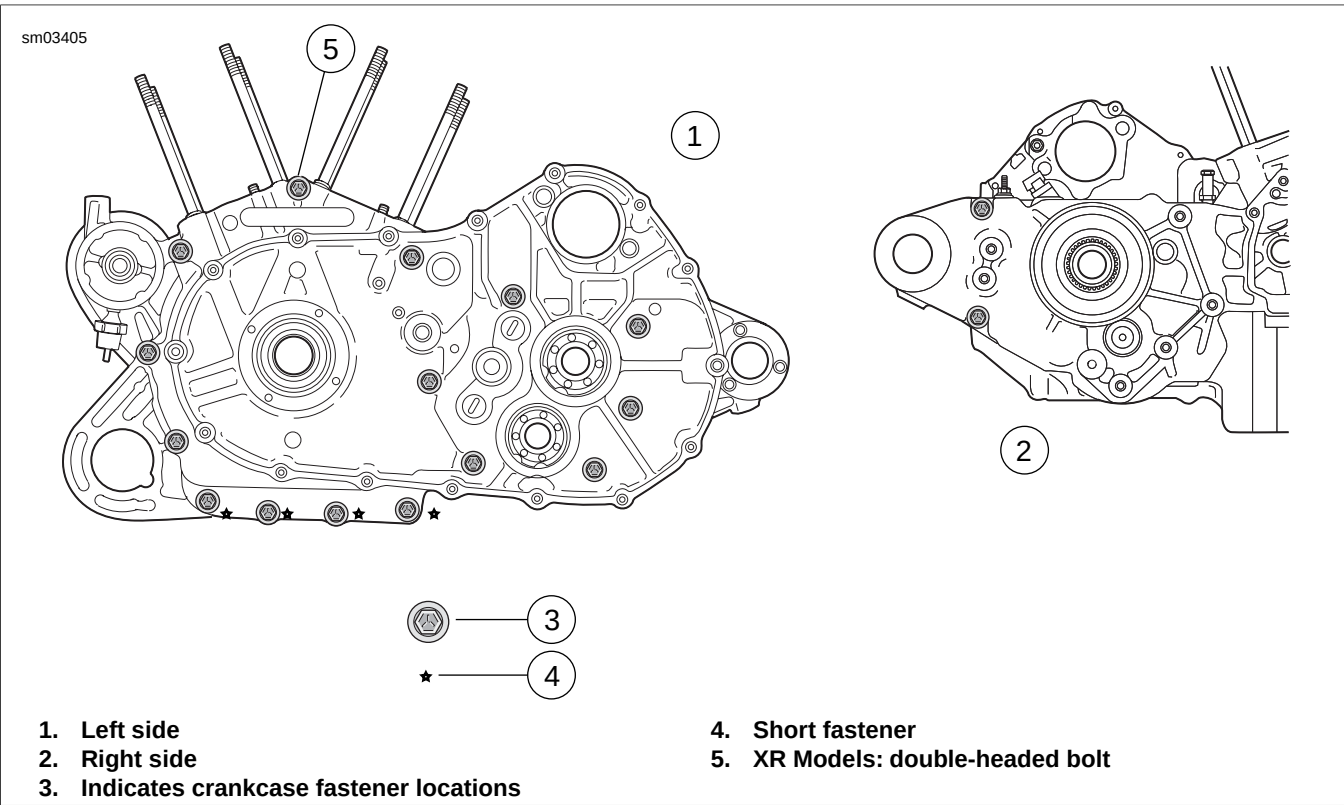

Figure 3-74. Crankcase Fasteners
- See Figure 3-74. Crankcase assembly has 17 fasteners; 15 inserted from left side and two inserted from right side.
4. See Figure 3-74. Remove 15 crankcase fasteners (eleven long and four short) from left side of crankcase assembly.